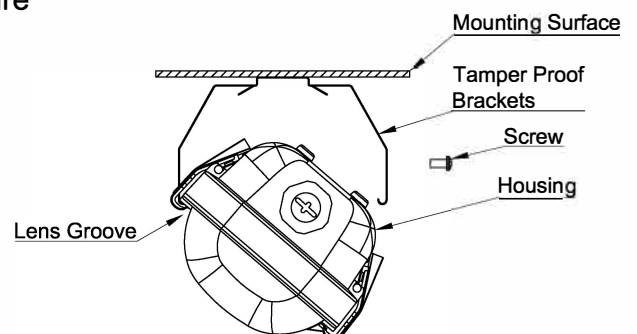

Fig 10
3. Push Housing into Tamper Proof Bracket as shown in Fig. 10. and fasten onto Lens Groove.
4. Secure Housing onto Tamper Proof Bracket with provided Screws (2 per Bracket) as shown in Fig. 10.